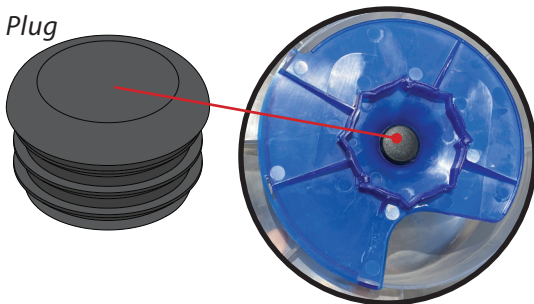

FIG. 6
5. Ensure your Dust Deputy Low-Pro model has the central Plug installed [FIG. 6]. If your model is missing the Plug, please contact Oneida Air Systems' Customer Service Department at 1-866-387-8822 or support@oneida-air.com and we will send out a replacement free of charge.